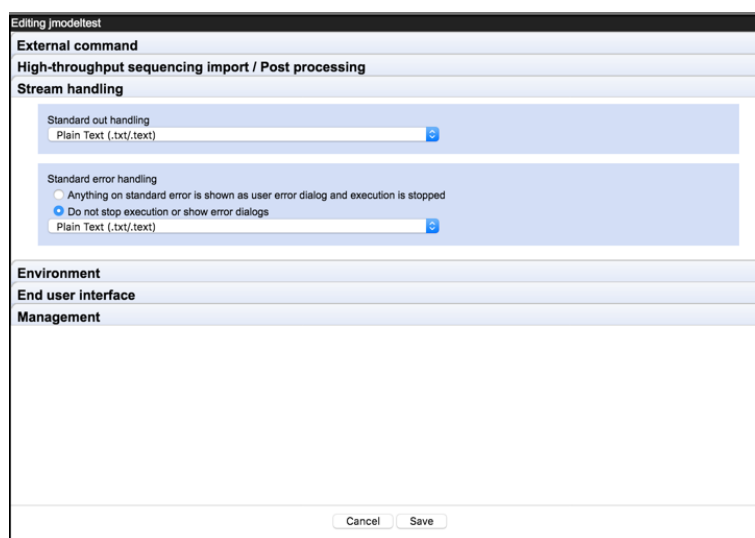

Figure 12.31: Standard error and standard out from the command line application can be collected and imported so it can be reviewed.
- Configure the external application to import standard out and/or standard error as text. This makes it possible to check error messages posted by the external application. See figure 12.31. For containerized external applications, messages from docker are posted to standard error, so collecting standard error for such applications is particularly recommended.